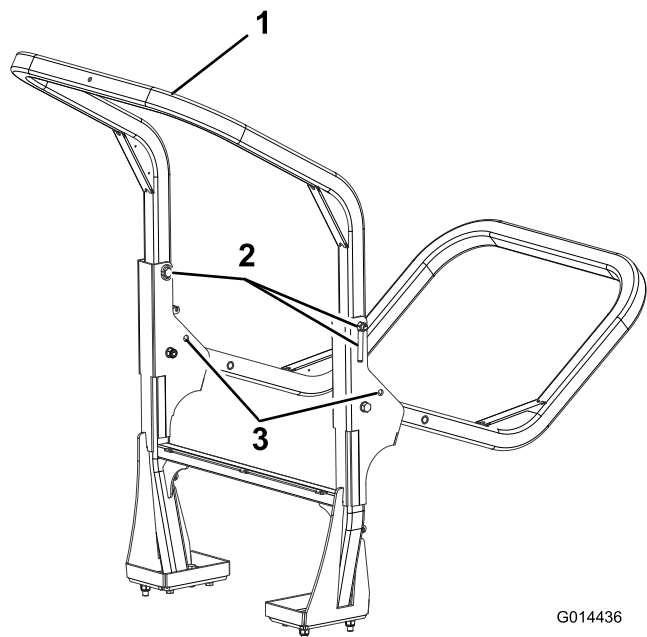

Figure 43
2. Support the weight of the upper frame while removing the hand nuts, washers and retaining bolts from the pivot brackets (Figure 43).